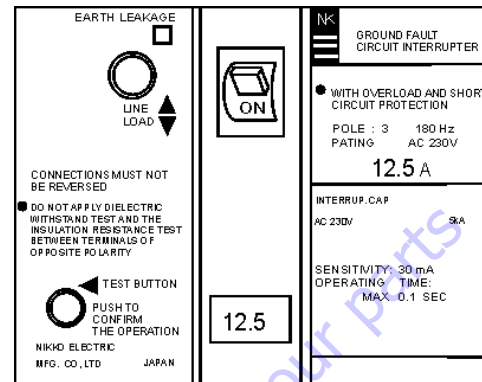

Figure 23. 60 and 180 Hz Breakers (ON)
1. Place the 180 Hz, 12.5 amp circuit breaker (Figure 23) in the **ON** position.